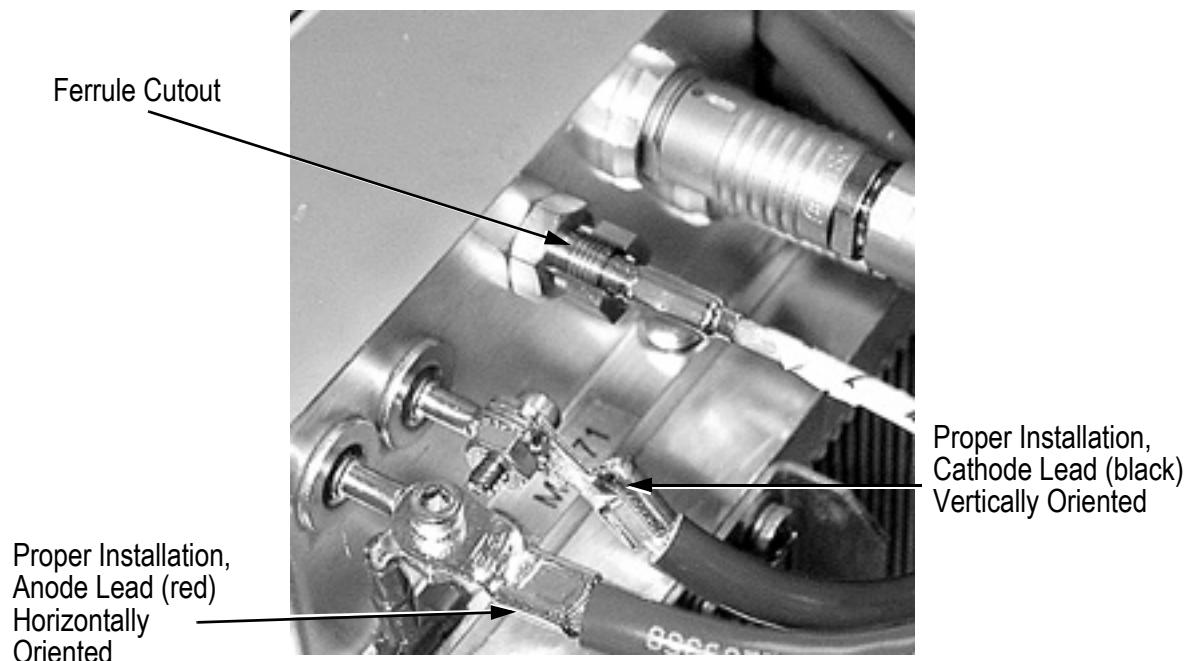

Figure 6-4. FAP-I Fiber Optic Connector
1. When removing or installing a fiber optic cable, do not allow the fiber optic cable to rotate while loosening the ferrule connector (Figure 6-4).
- b. Note the ferrule cutout (see Figure 6-4). Carefully extract the fiber optic cable from the FAP-I and remove the ferrule.
After connection, the red anode lead should be horizontally oriented and the black cathode lead should be vertically oriented. This is illustrated in Figure 6-4 and minimizes the potential of generating/picking up EM noise.